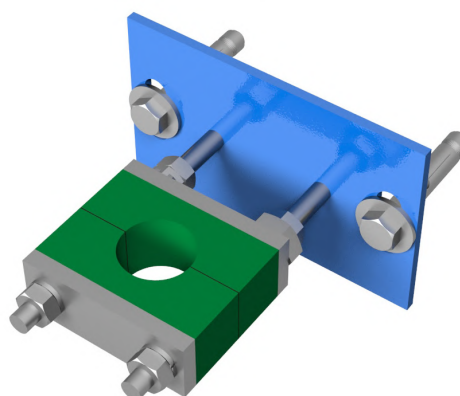

Fig.8
- A stem support-guide (Fig. 8) is recommended every 1.5m.